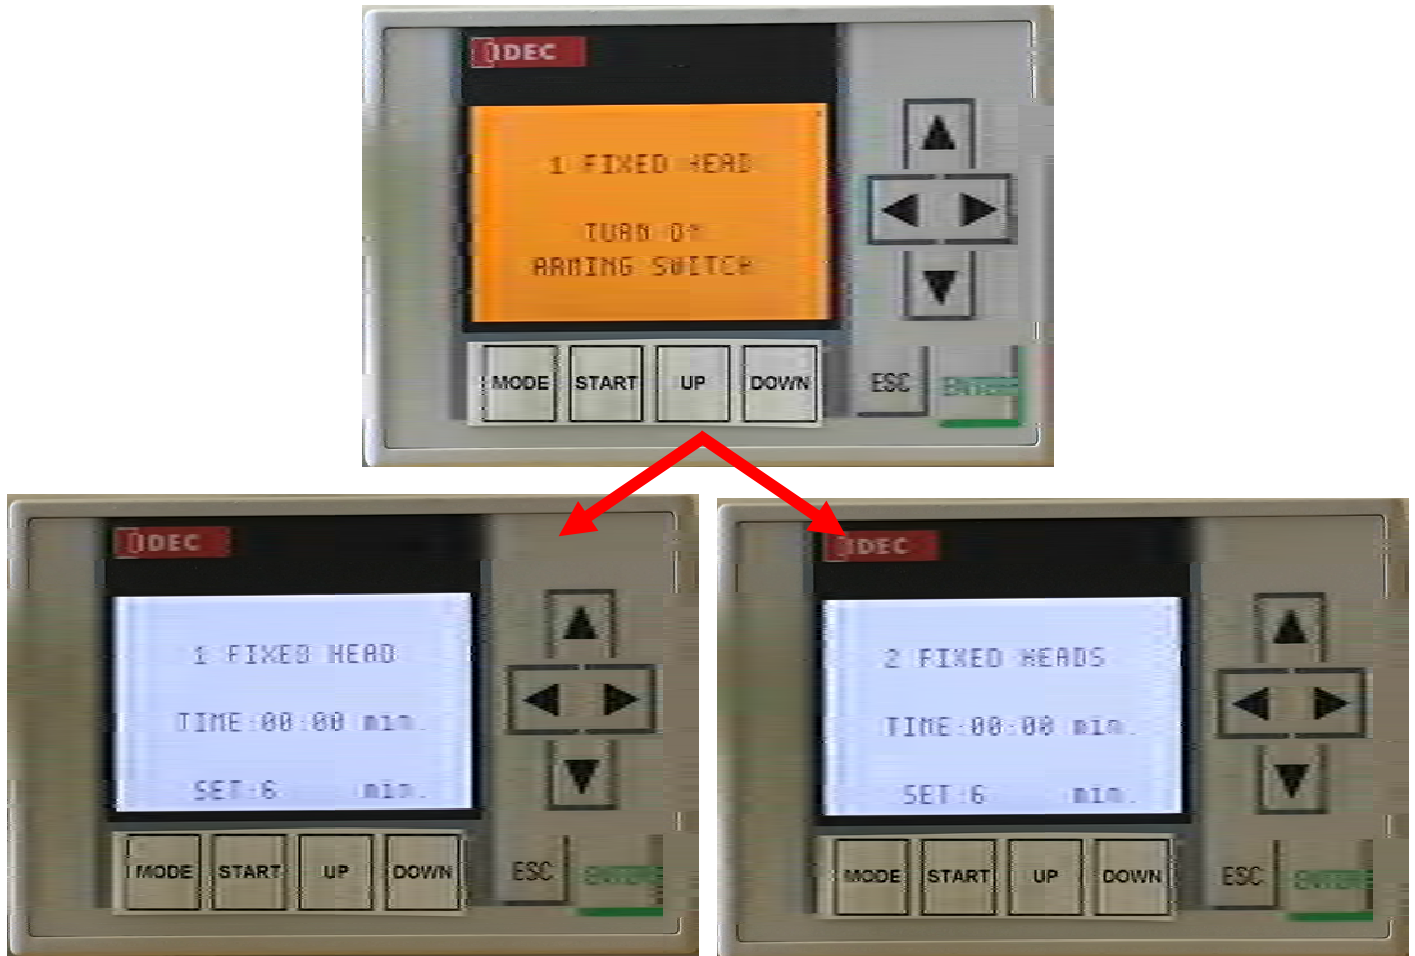

FIGURE 15
- 4.5.1 The Fixed Head Modes (Figure 15) allow the operator to treat an enclosed area using one or both the two fixed heads located on top of the 3110 unit. This mode works best when HVAC and ventilation have been isolated.